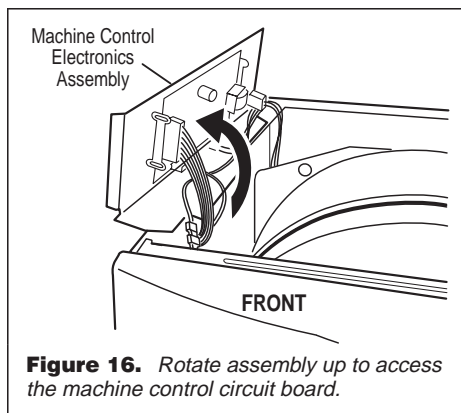

Figure 16. Rotate assembly up to access the machine control circuit board.
2. As you remove the assembly from its mounting position, rotate the assembly up to access the machine control circuit board, and set it on the side panel. See figure 16.